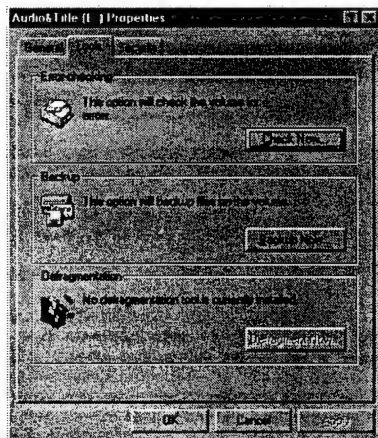

Fig. 3 Properties tool dialog box
3. When the [Tools] tag is clicked, the dialog box shown in Fig. 3 is opened.
5. The properties tool dialog box screen shown in Fig. 3 now returns. Click [Cancel] to exit the tool.